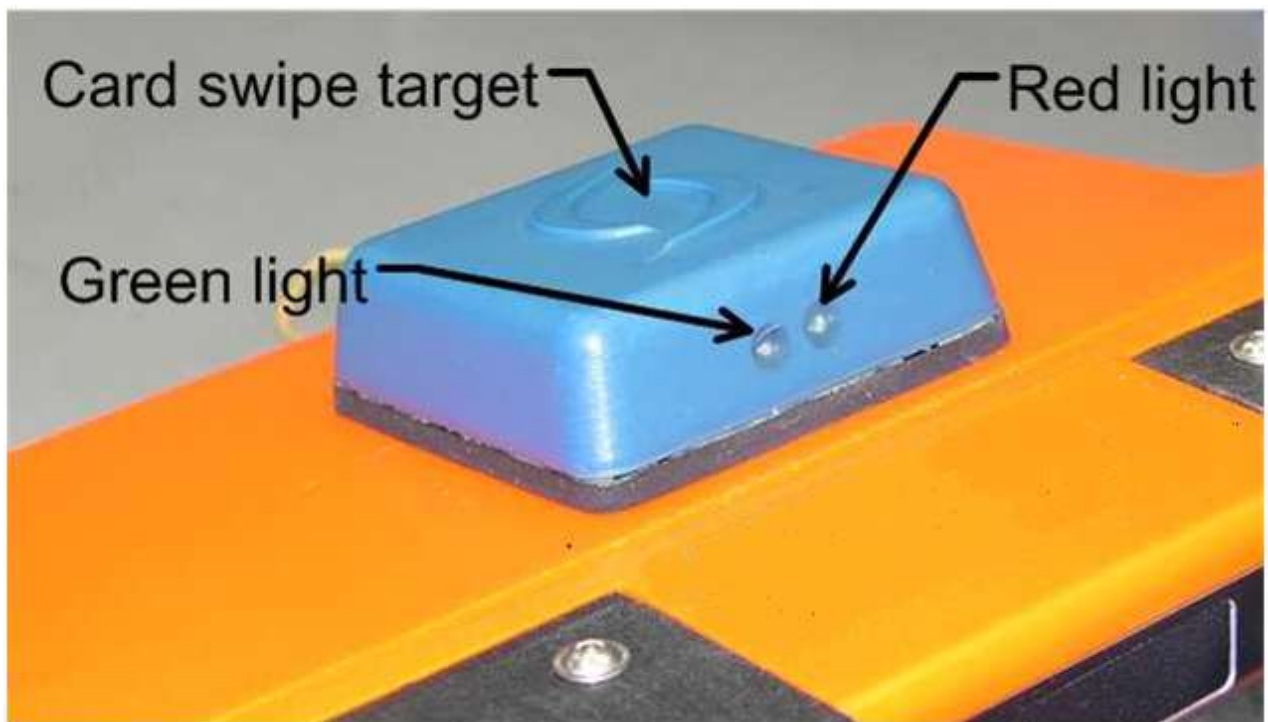

Figure 1 The card swipe target is the outward face of the blue AccessPack and the indicator lights are used to indicate the status of the AccessPack.
- 4) Swipe a user card by moving card across target (see Figure 1). AccessPack will turn the green light on for an authorised card read or turn on the red light for an unauthorised card read.